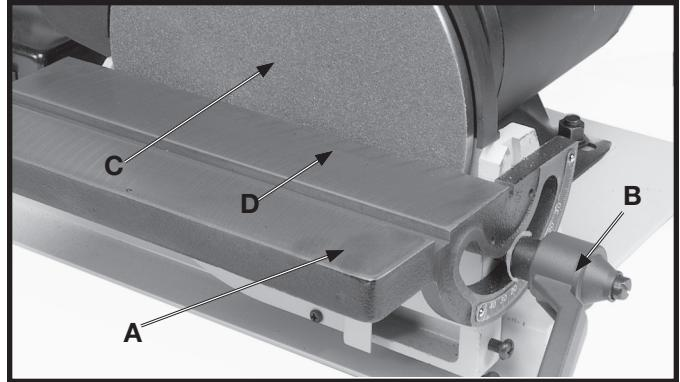

Fig. 28
The disc table (A) Fig. 28, can be tilted 45 degrees up or down, by loosening lock handle (B), tilting the table, and tightening lock handle (B). **NOTE:** The lock handle (B) is spring-loaded and can be repositioned by pulling out the handle (B) and repositioning it on the serrated locking stud located directly underneath the handle.
**WARNING** To avoid trapping the work or fingers between the table and sanding disc, the sanding disc (C) should be adjusted so it is a maximum of 1/16 inch from edge of table (D).